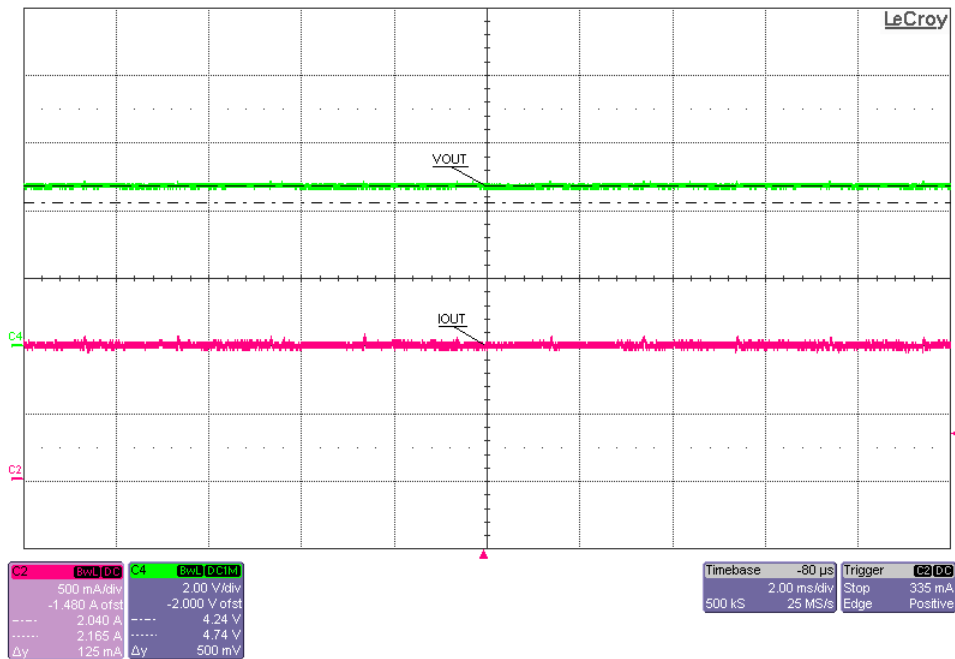

Figure 2. bq51020 in Steady State Operation with bq24250
- Figure 2 shows the  $V_{OUT}$  and  $I_{OUT}$  from the RX as the battery charges.